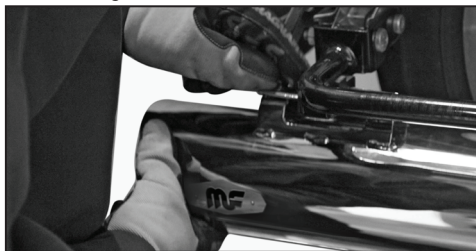

Fig.9
4. Install the bolts and supplied washers through the saddle bag mounting plate and to the top of each muffler. Do not tighten the bolts at this time to allow for adjustment. (Figure 9)